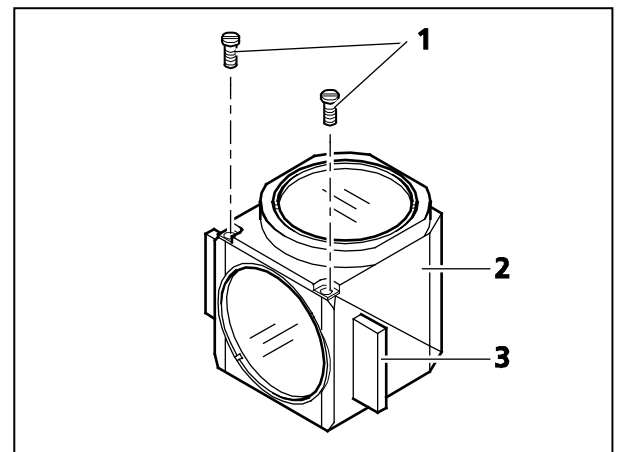

Fig. 3-30 Opening the Reflector Module
- Loosen the two slotted screws (Fig. 3-30/1) with a screwdriver.
- Hold the two reflector module halves - **emission** module half (Fig. 3-30/2) and **excitation** module half (Fig. 3-30/3) together, turn them over against the mounting position and set them down.